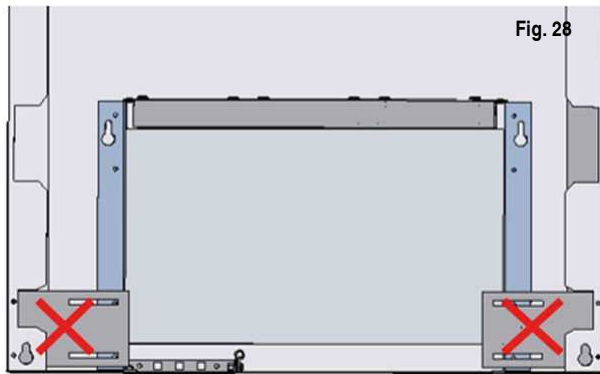

Fig. 28
- Remove the clamps for transporting the heat exchanger (Fig.28), as well as the plugs from the upper and lower emitter sockets.